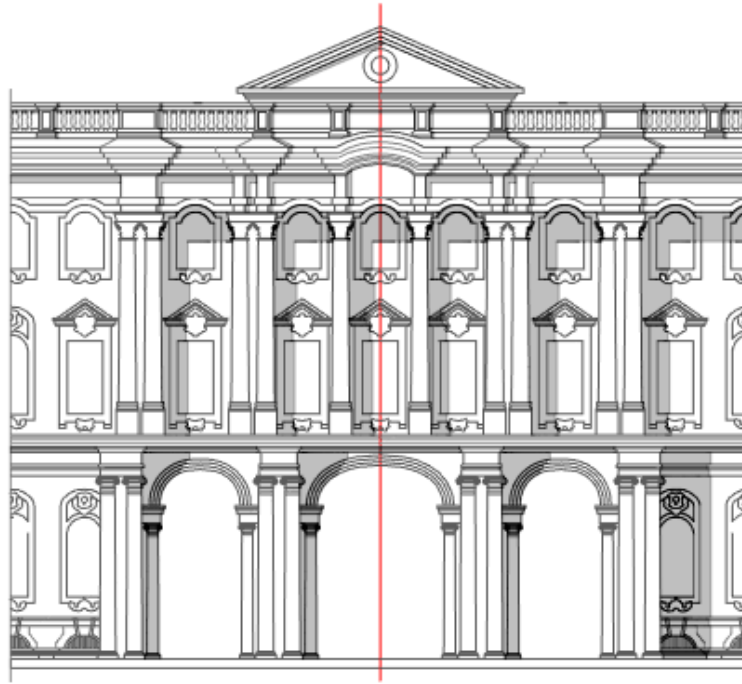

Fig. 29. Final display of shadows on façade
13. Turn on visibility of the Right shadows layer. We finished the rest of the shadows for you 😊. The result should be as shown in fig. 29: